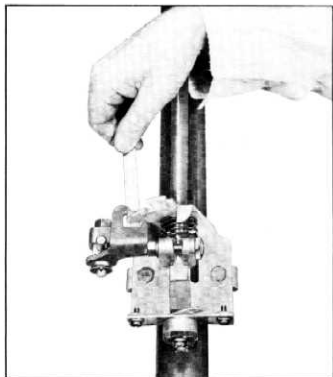

Fig. 25—Reverse Stop to Lower Lever Clearance
4. With selector lever in reverse, check clearance between the reverse stop on the control shaft lower support and lower lever (fig. 25). The clearance should be .090".
5. To adjust, loosen transmission control rod swivel, make sure transmission manual valve lever is raised to top detent position and selector lever is in (R) position. Move selector lever as necessary to obtain .090" clearance and retighten swivel.